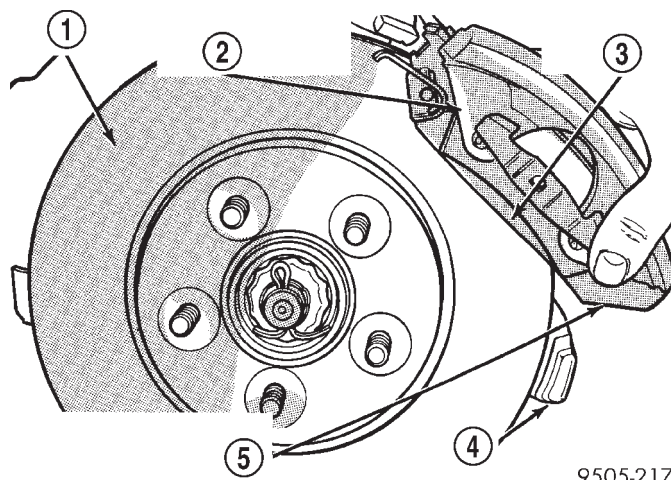

Fig. 79 Removing / Installing Brake Caliper
(4) Remove brake caliper from steering knuckle, by first rotating bottom end of caliper away from steering knuckle. Then slide top of caliper down from the machined abutment on steering knuckle (Fig. 79).
(3) Carefully position caliper and brake shoe assemblies over brake rotor by first hooking top of brake shoes on the machined abutment on upper steering knuckle (Fig. 79). Then rotate the bottom of the brake caliper into position on the steering knuckle. **Make sure that caliper guide pin bolts, bushings and sleeves are clear of the steering knuckle bosses.**